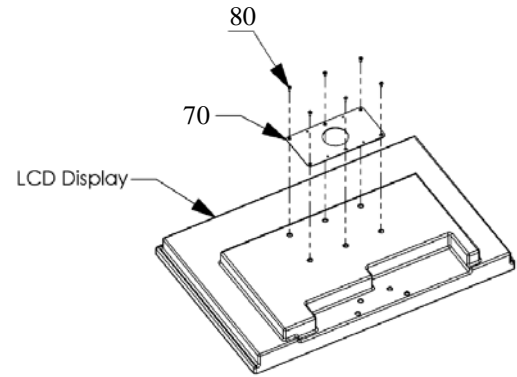

Figure 10. Install 200mm/100mm Pattern
1. Attach interface bracket (70) to the display using six M4 x 12mm flat head screws (80). See Figure 10.